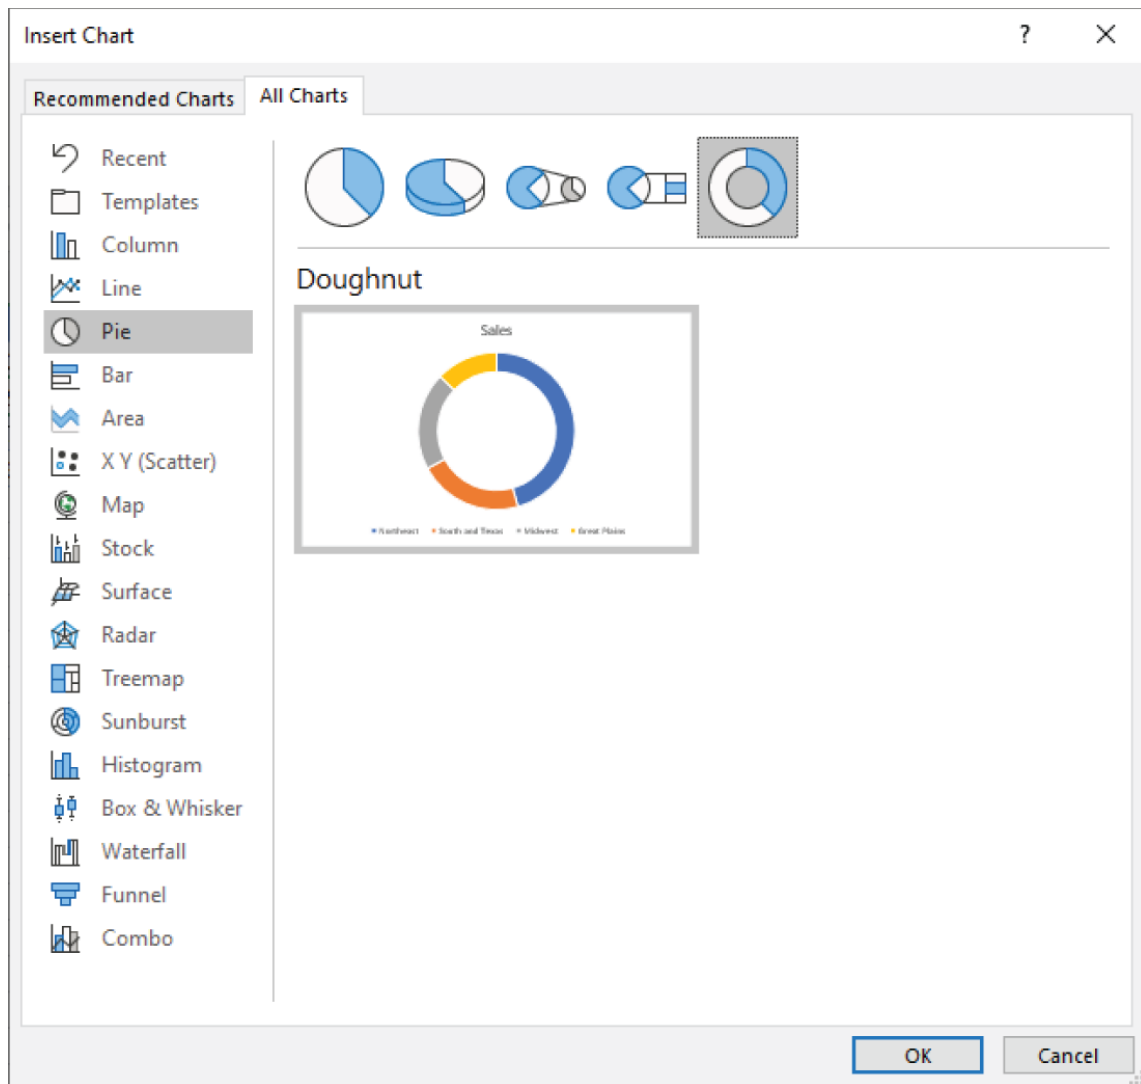

Figure 8.5: The Insert Chart dialog box
4. Select the Doughnut chart type and click OK. Figure 8.5 shows the Insert Chart dialog box.